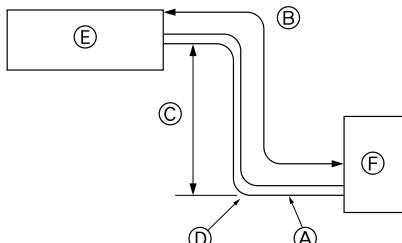

Fig. 2-1
① Joint pipex1
2.1. Refrigerant pipe (Fig. 2-1)